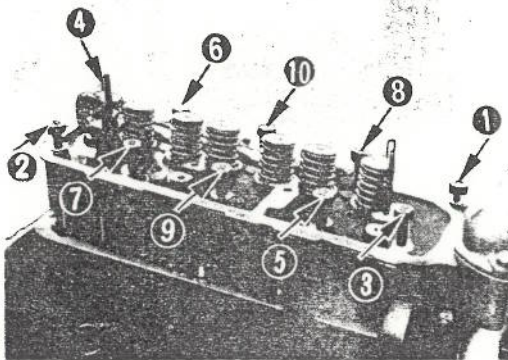

Fig. 4-14
(17) Remove the thermostat housing (1) and take out the thermostat unit.
(18) Remove the valve rocker shaft assembly (1).
(19) Pull out the Push rod (2).
(20) Remove the cylinder head and cylinder head gasket. The cylinder head clamping bolts should be turned loose in the sequence illustrated in Fig. 4-14.
(21) Remove the tappets.
(22) Hold the engine vertically with the flywheel (1) side down.